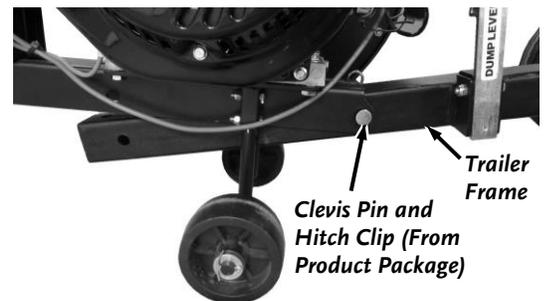

Figure 18
2. Lift the Cart Frame to align the rear hole in the Engine Unit with the hole in the Frame and insert a 1/2" X 3.5" Clevis Pin and Hitch Clip (Clevis Pins and Hitch Clips are provided in the Product Package (Figure 18).